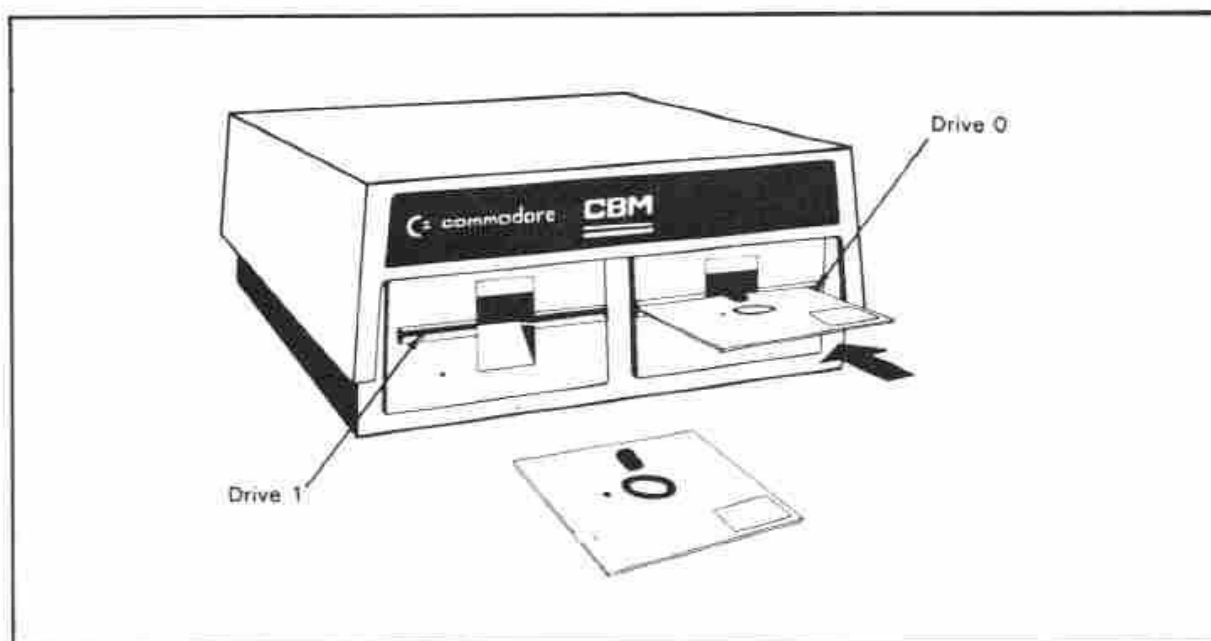

Figure 1-25. Inserting the Diskettes (Model 8050)
2. Carefully guide the diskette into one of the slots (Figure 1-25) until you hear a loud click. Do not push the diskette further in. If it doesn't slide in smoothly, immediately withdraw it and try again. *Do not force the diskette or you may damage both the diskette and the disk drive.*